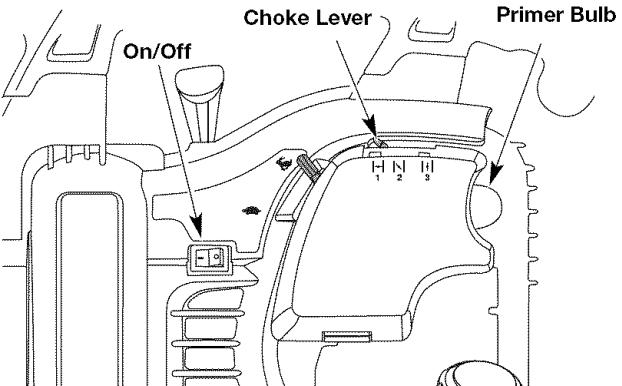

Fig. 14
**NOTE:** There is no need to turn the unit on. The On/Off Stop Control is in the ON (I) position at all times.
3. Fully press and release the primer bulb 10 times, slowly. Some amount of **fuel should be visible in the primer bulb and fuel lines** (Fig. 14). If you can't see fuel in the bulb, press and release the bulb as many times as it takes before you can see fuel in it.
4. Place the choke lever in **Position 1** (Fig. 14).
6. Place the choke lever in **Position 2** (Fig. 14).
9. Place the choke lever in **Position 3** (Fig. 14). The unit is ready for use.
2. Press and hold On/Off Stop Control in the OFF (O) position until engine comes to a complete stop (Fig. 14)